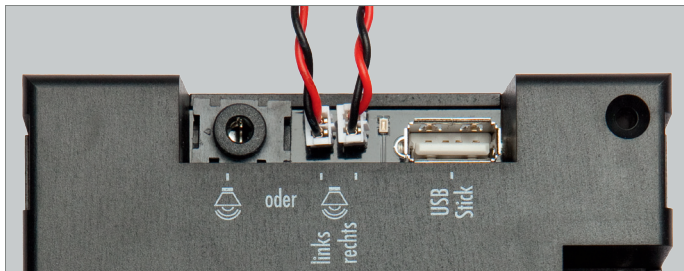

Fig. 3: Connecting loudspeakers
- Connect the loudspeakers, see Fig. 3.
- Plug the jack in, see Fig. 3.